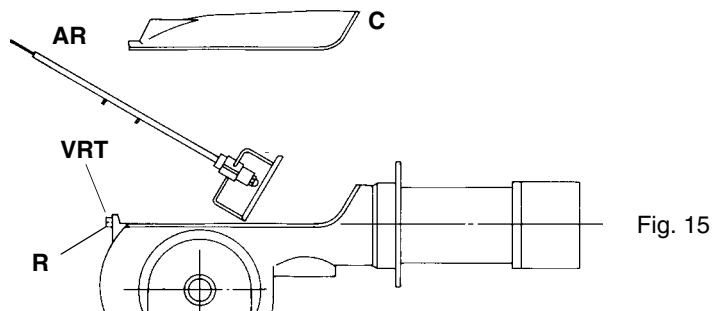

Fig. 15
- 5 remove the complete assembly as shown in Fig. 15 (in models **PG70 - PG81**)the adjusting screw VRT is pulled out with the combustion head assembly